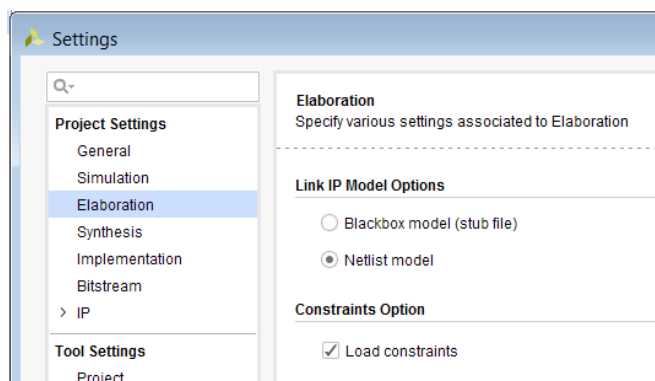

Figure 4-4: Setting Elaboration Options
2. In the Project Settings dialog box (Figure 4-4), ensure that the **Netlist model** and **Load constraints** options are selected.